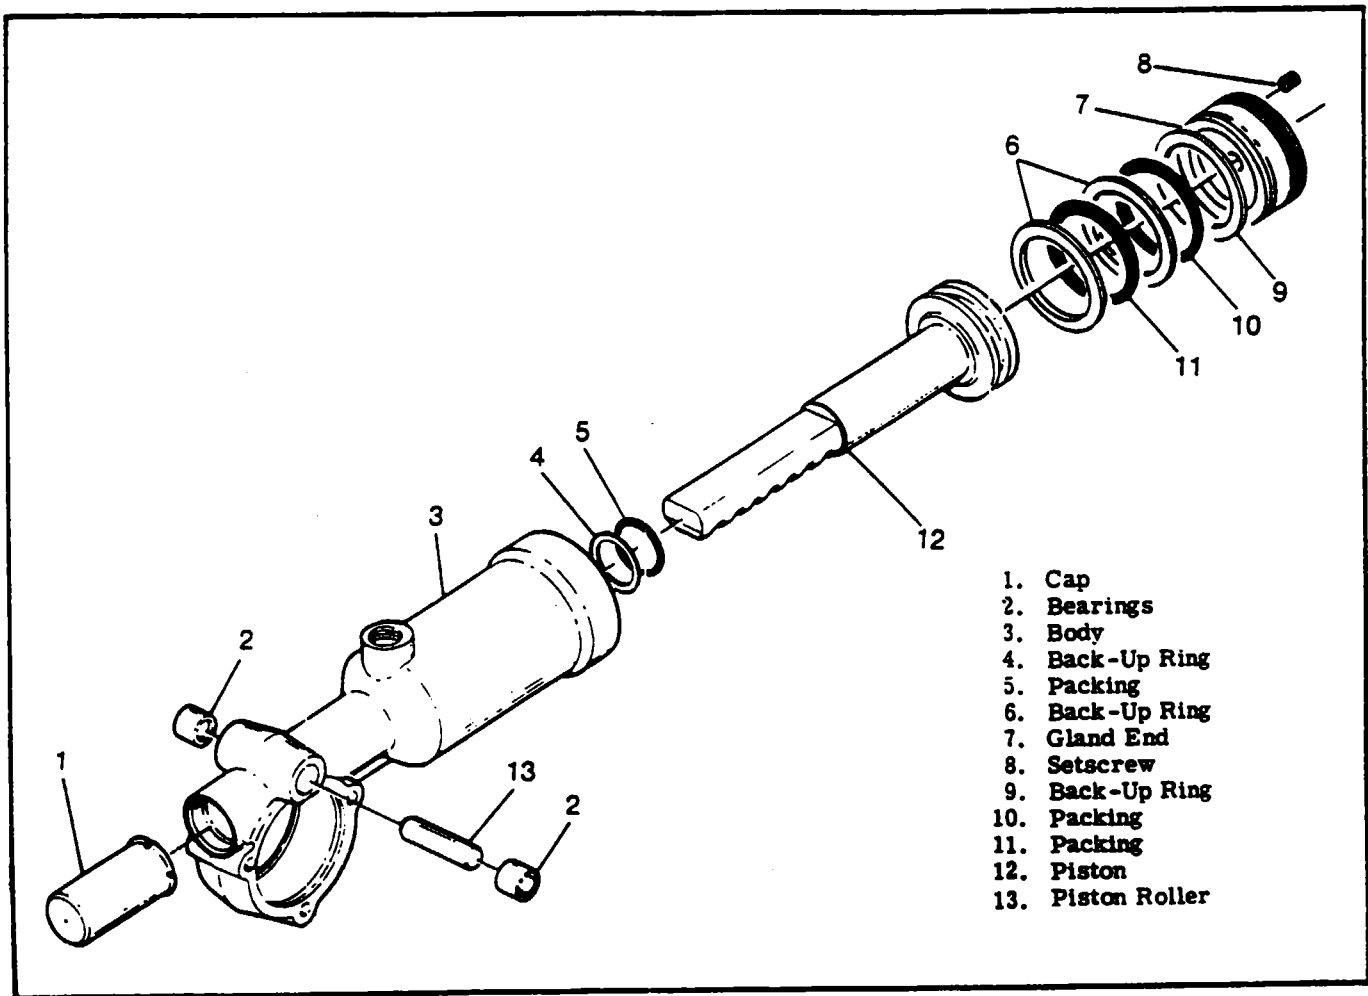

Figure 5-13. Main Landing Gear Actuator
## 5-54. MAIN GEAR ACTUATOR. (Refer to figure 5-13.)
### 5-56. DISASSEMBLY. (Refer to figure 5-13.)
- c. Inspect cap (1), piston (12), roller (13), if removed, and actuator body (3) for cracks, chips, scratches, scoring, wear or surface irregularities which may affect their function or the overall operation of the actuator.
- d. Inspect bearings (2), if removed, for freedom of motion, scores, scratches or Brinell marks.
**5-59. REASSEMBLY.** (Refer to figure 5-13.)